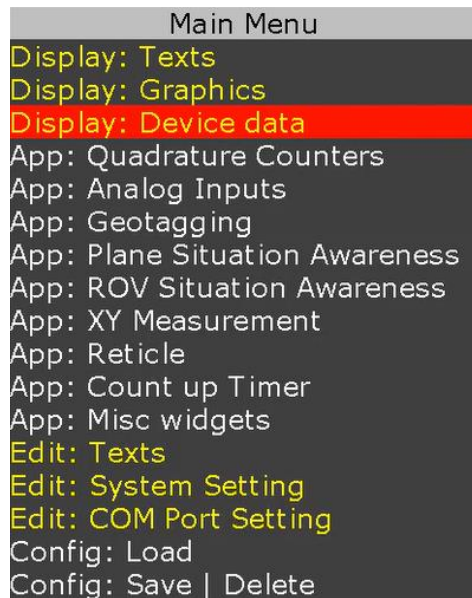
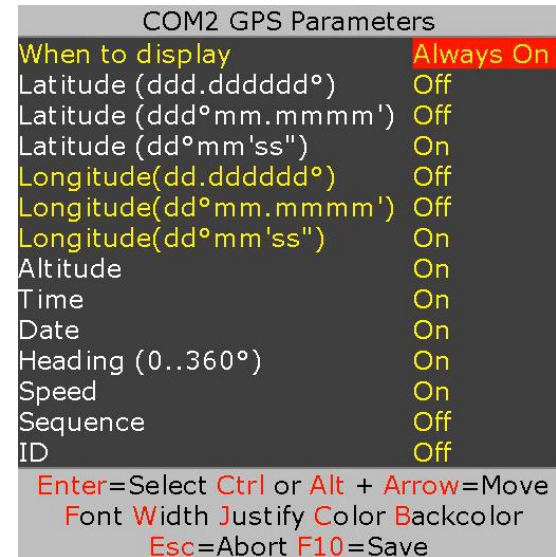
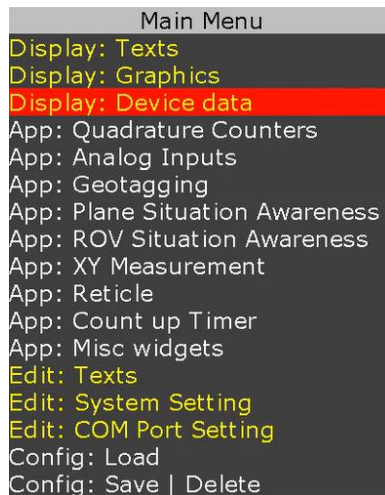
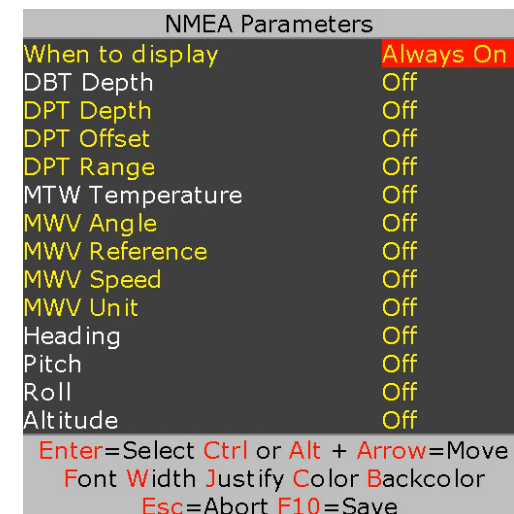

Figure 12
Figure 14
Figure 15
Figure 17
To customize the sample file to meet your needs, follow Figure 12 - Figure 14.
While in Figure 14, use \updownarrow to select desire GPS parameter. Press \downarrow to select "On". Use shortcuts keys to format the text as described below:
- For above messages, just configure COM port and PROTEUS is ready to receive messages & manage your visual data. Follow Figure 15-Figure 17 and Figure 12 - Figure 14 to display NMEA parameters.